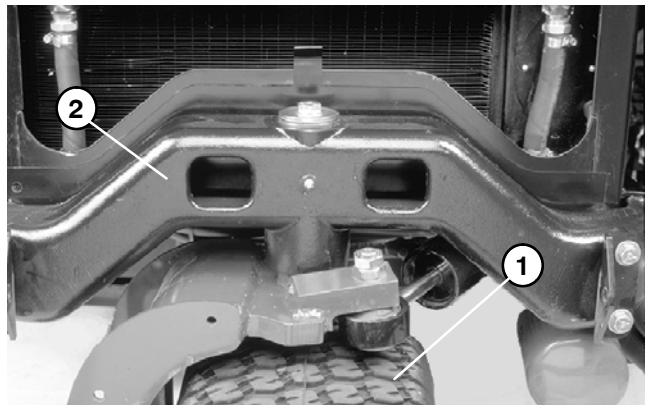

Figure 2
- A. Secure a chain fall or hoist to the rear casting (Fig 2).